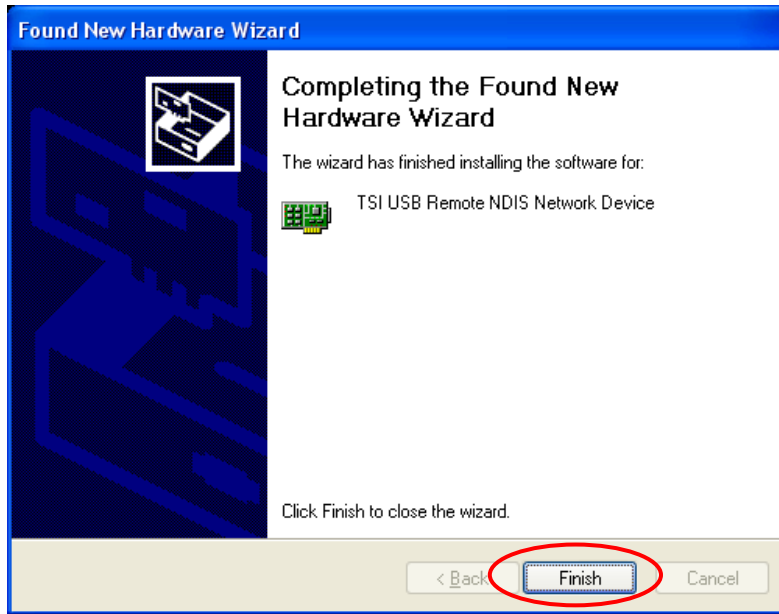

Figure 10
12. Make sure that the device installed without any errors. Select **Finish** to complete the device installation and exit the dialog (Figure 10).